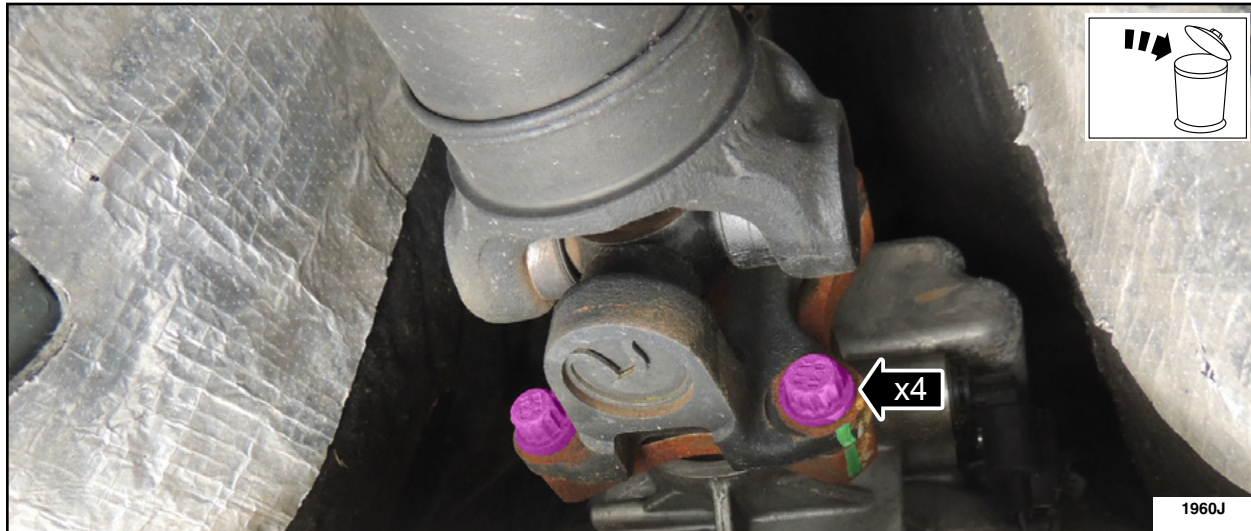

FIGURE 9
10. Remove and discard the four driveshaft to transmission flange bolts. See Figure 9.
25. Install the four *new* driveshaft to transmission flange retainers. See Figure 9.